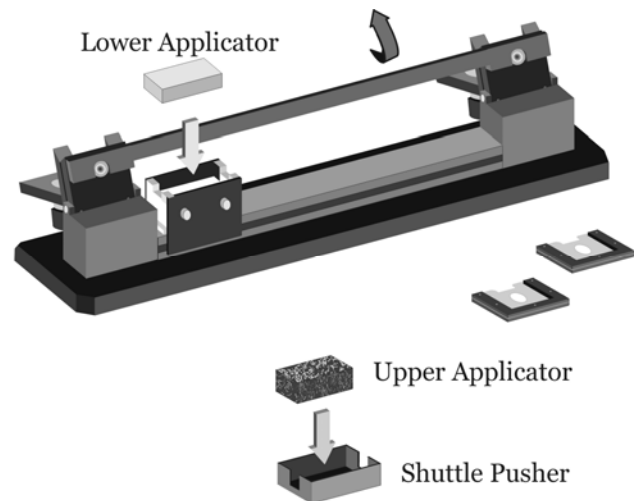

Figure 4. Preparation
5.04.5 As shown in Figure 4, insert the lower (harder) applicator in the shuttle and slide the shuttle to the cable end of the unit and insert the upper applicator in the shuttle pusher.